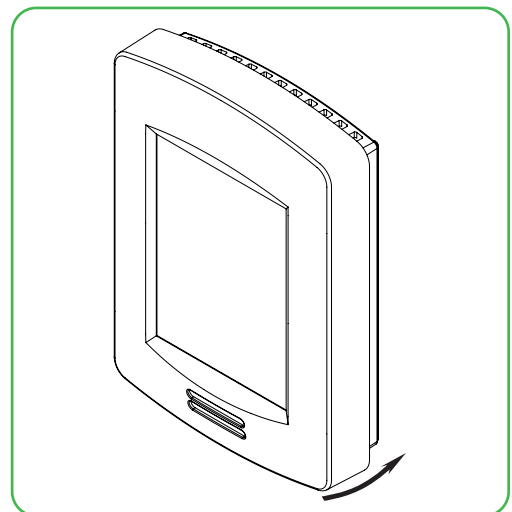

Figure 3 Reinstall cover
12. Gently align the cover with the top of the base and snap in place from the bottom (Figure 3).